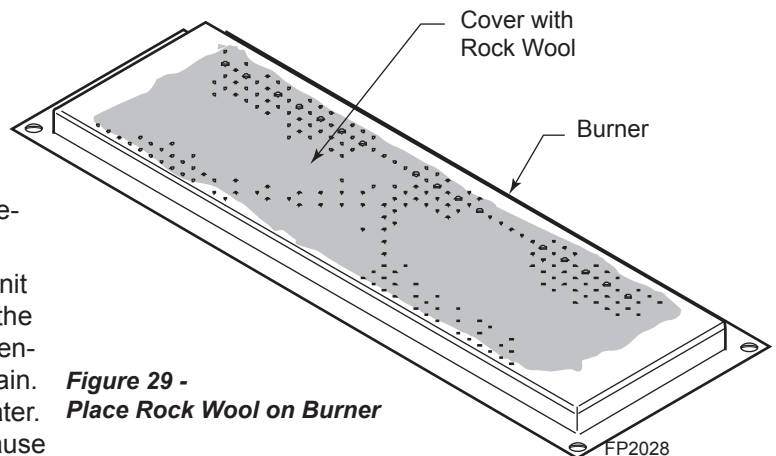

**Figure 29 -
2. Distribute one layer of rock wool to cover the entire burner. *Figure 29*